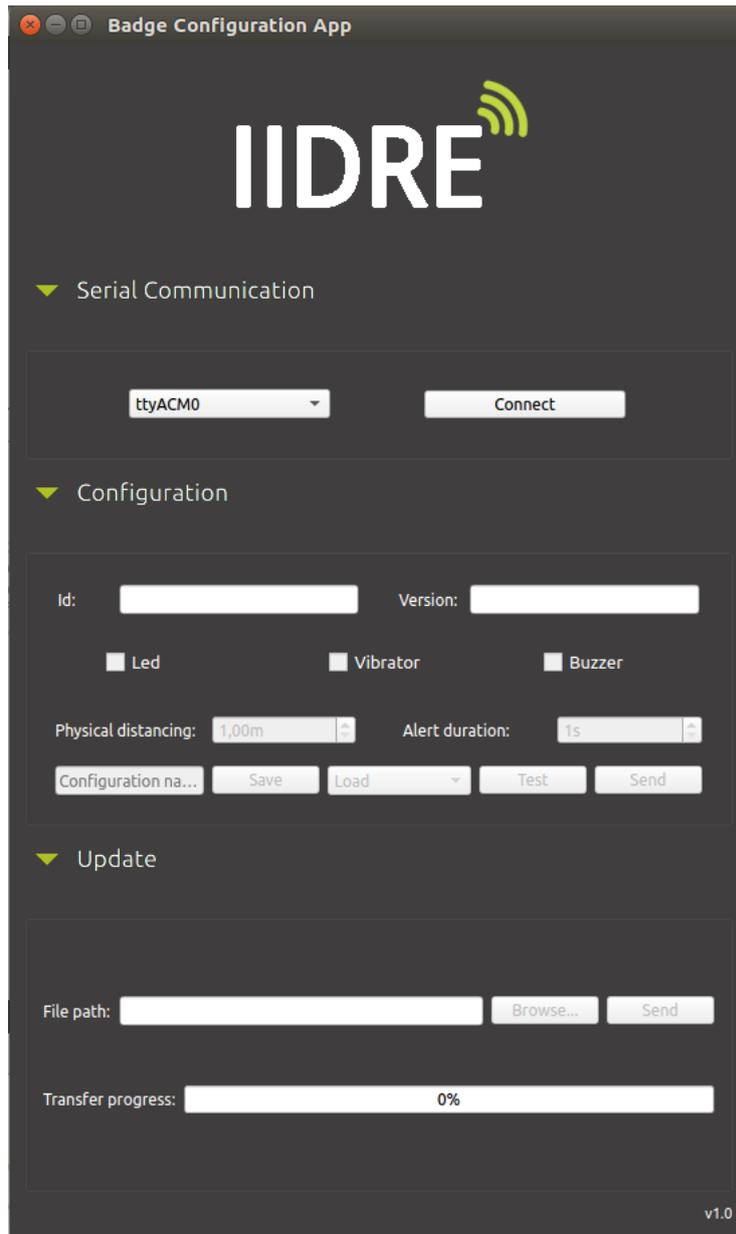

Figure 1: *Badge Configuration App* - welcome page menu
2. Launch the *Badge Configuration App* and deploy the drop-down menus available on the welcome page as shown on the Figure 1 below.